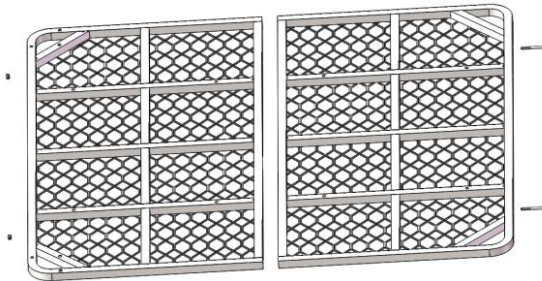

Figure 1
Step 1: Assemble the platform one (TS305.05) to the platform two (TS305.10) by using two 1/4"-20×2-1/4" bolts (48271B) and two 1/4" lock nuts (48752B). The expanded metal should face up. Leave these hand tight for now (**Figure 1**).